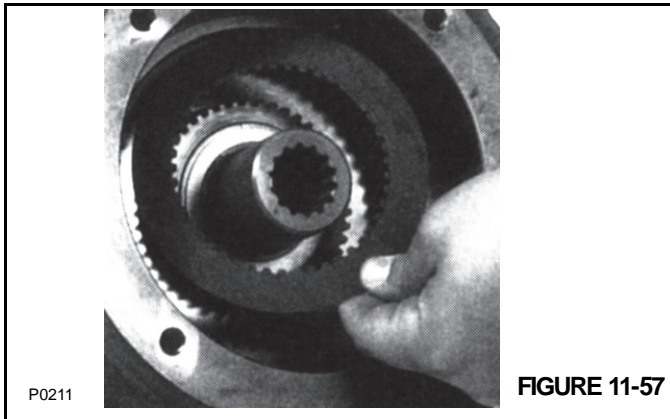

FIGURE 11-57
3. Install the stator plates and the friction discs into the housing starting with a stator plate (Figure 11-56) and followed by a friction disc (Figure 11-57). Alternate stator plates and friction discs until all are installed. There is one more stator plate than friction discs, so you will finish with a stator plate.